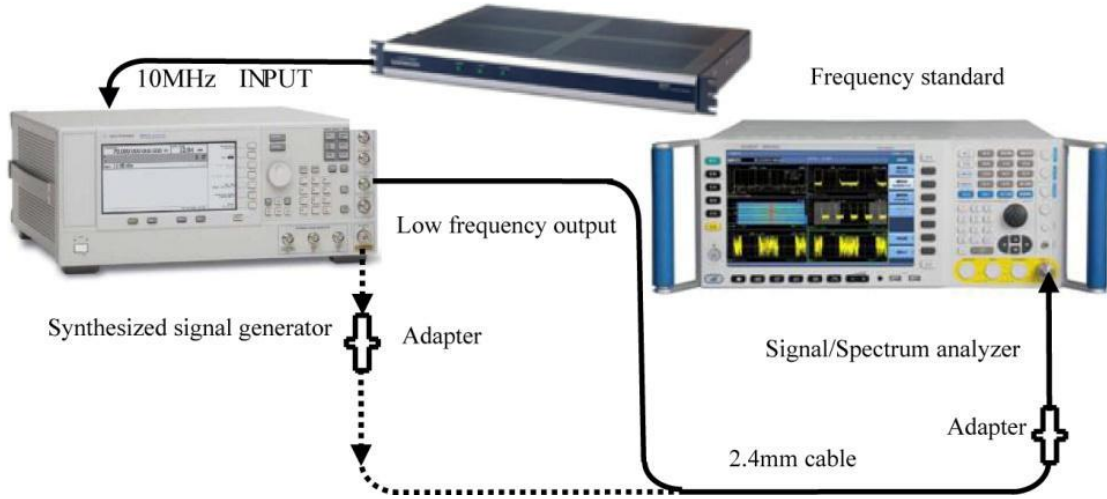

Fig. 8.1 Schematic diagram of frequency range test
- 1) Connect the frequency standard output to the 10 MHz input of the signal generator according to Fig. 8.1 to provide reference frequency for the synthesized signal generator with the external frequency standard and connect the low frequency output of the synthesized signal generator to the input interface of the 4051